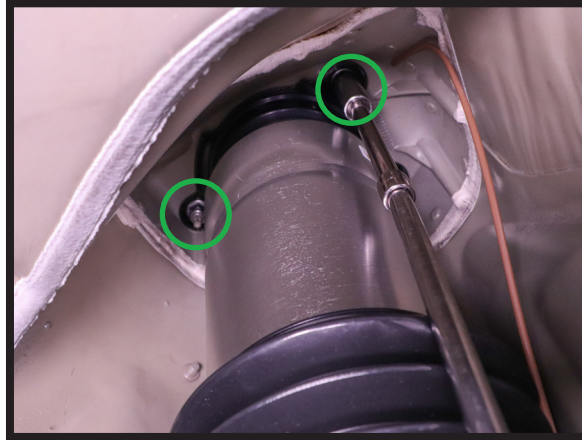

FIGURE 12
2. REINSTALL THE THREE (3) FACTORY TOP MOUNT NUTS. TIGHTEN TO MANUFACTURER'S SPECIFICATIONS. (FIGURE 12)